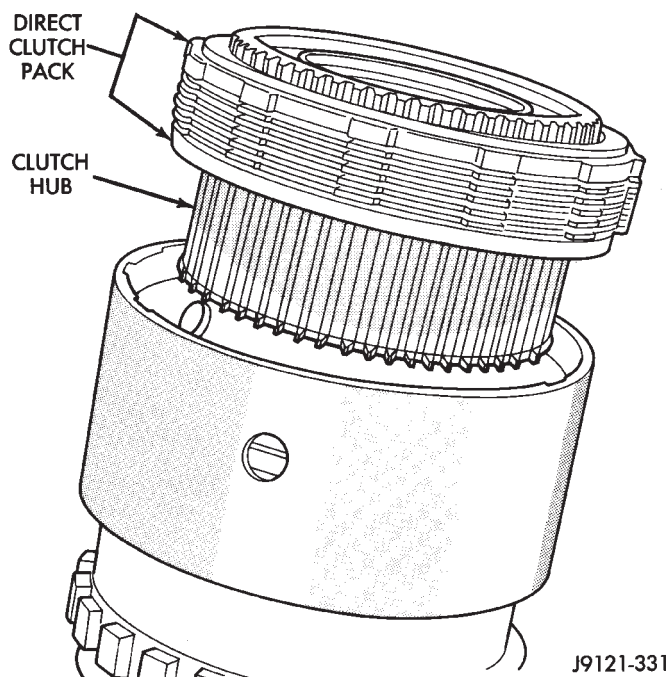

Fig. 51 Installing Assembled Direct Clutch Pack And Hub
(23) Install clutch hub and clutch pack on direct clutch spring (Fig. 51).